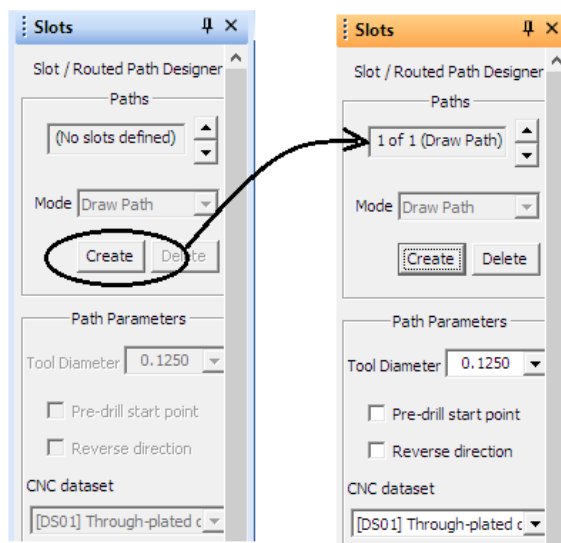

Figure 5
- a) Select the **Create** button from the Slots dialogue bar, Figure 5.